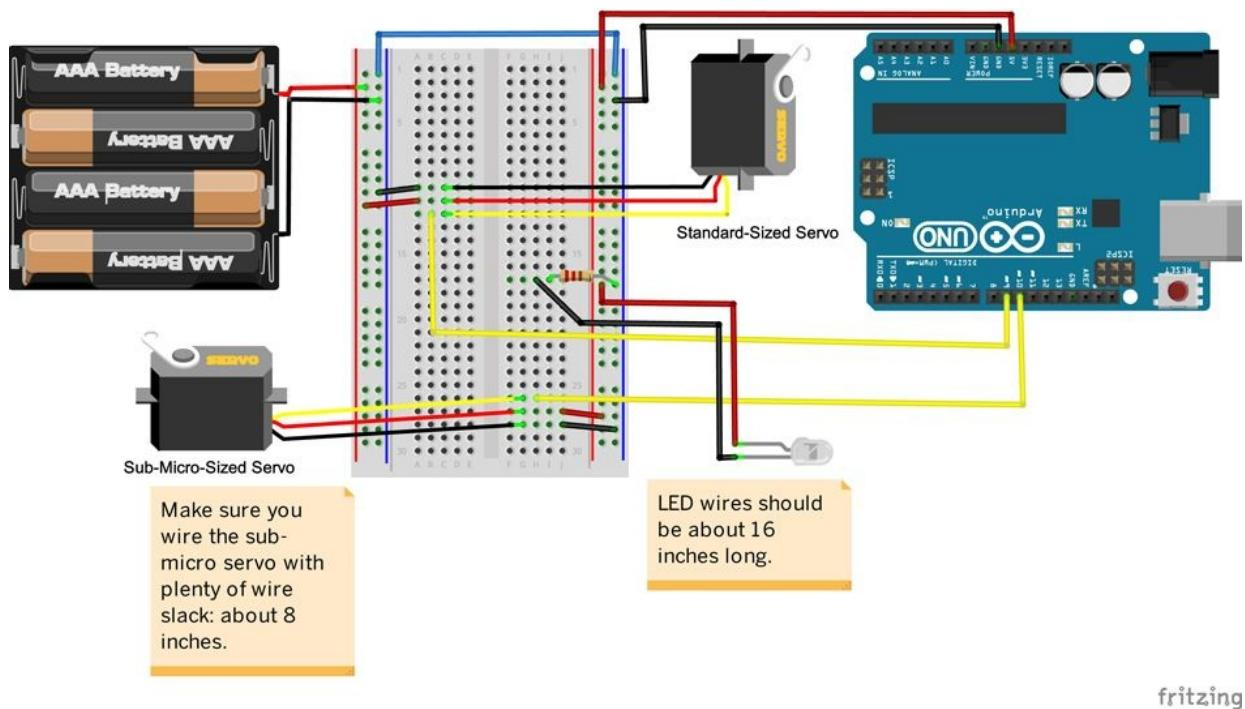

Figure 7-21. Fritzing diagram with LED wiring
2. Solder or otherwise connect the LED to hookup wires (Figure 7-21).